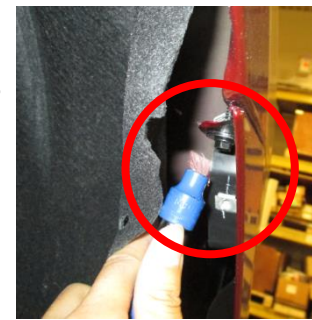

Figure 2
- Bumper fascia removal** – use panel removal tool to remove (3) plastic rivets from bottom fascia. Use T15 driver and 7mm socket to remove (5) screws from wheel well liner each side, see **Figure 2**. Open the trunk. Using plastic trim tools, gently remove the plastic fascia starting at the outer edges near the wheel wells. Disconnect the wiring from fascia if equipped.
1. Bumper fascia removal – use panel removal tool to remove (3) plastic rivets from bottom fascia. Use T15 driver and 7mm socket to remove (5) screws from wheel well liner each side, see **Figure 2**. Open the trunk. Using plastic trim tools, gently remove the plastic fascia starting at the outer edges near the wheel wells. Disconnect the wiring from fascia if equipped.